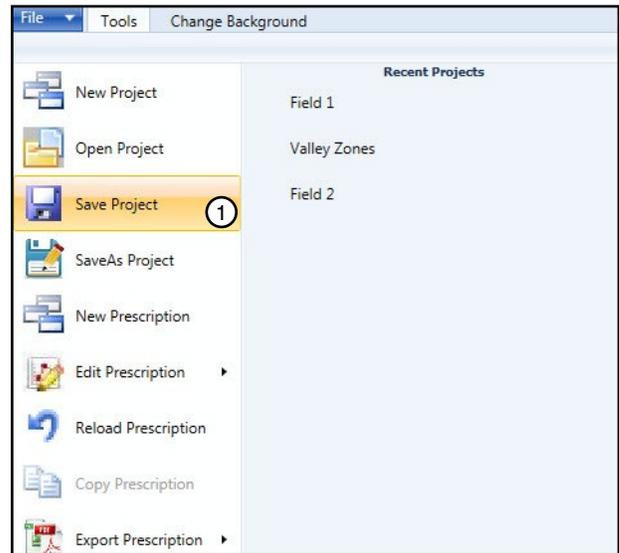

Figure 27-1 1. Save Project
1. Select **Save Project** in the VRI drop-down menu. See Figure 27-1.